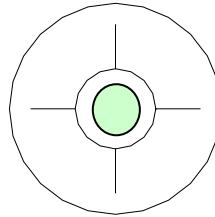

Figure 9-3
- c. Final adjustment is achieved by observing the GREEN light image on the frosted glass target. (Figure 9-3) Then readjust the 4 nuts on the mounting bolts until the projected beam is completely contained within the circular target of the alignment device. The last few adjustments should be by tightening only, so that the Retroreflector Assembly is securely fastened to the port.